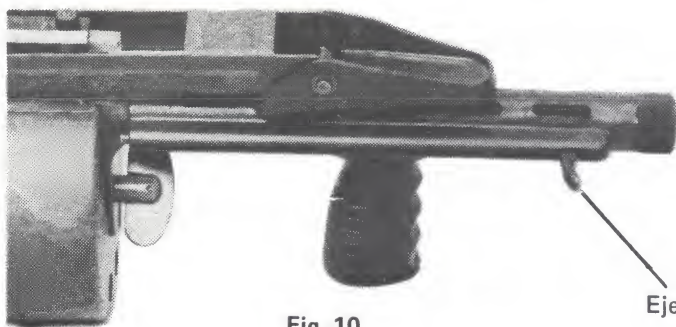

Fig. 10
- 3) With the right hand using the ejector lever, (Fig. 10) eject spent rounds by pulling the ejector lever towards you using a quick, snappy action.
- 4) With the right hand, using the ejector lever, (Fig. 10) eject spent rounds by pulling the ejector lever towards you using a quick, snappy action.